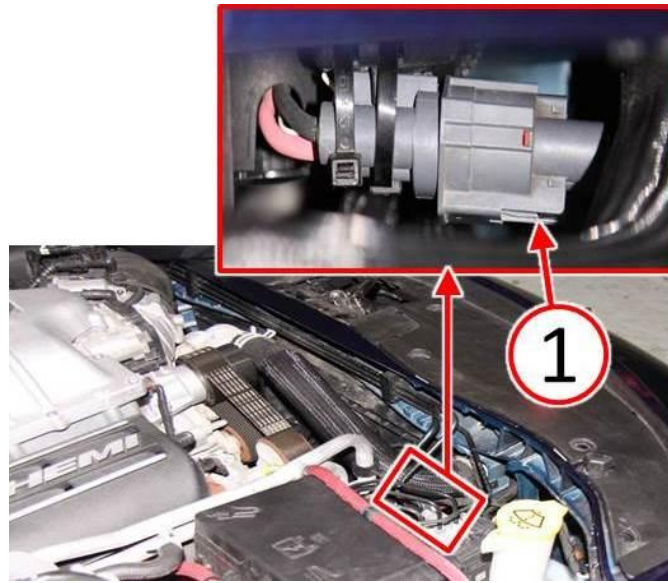

Fig. 2 Disconnect Fan Electrical Connector
5. Depress locking tab (1) then pull to disconnect the cooling fan electrical connector (Fig. 2).